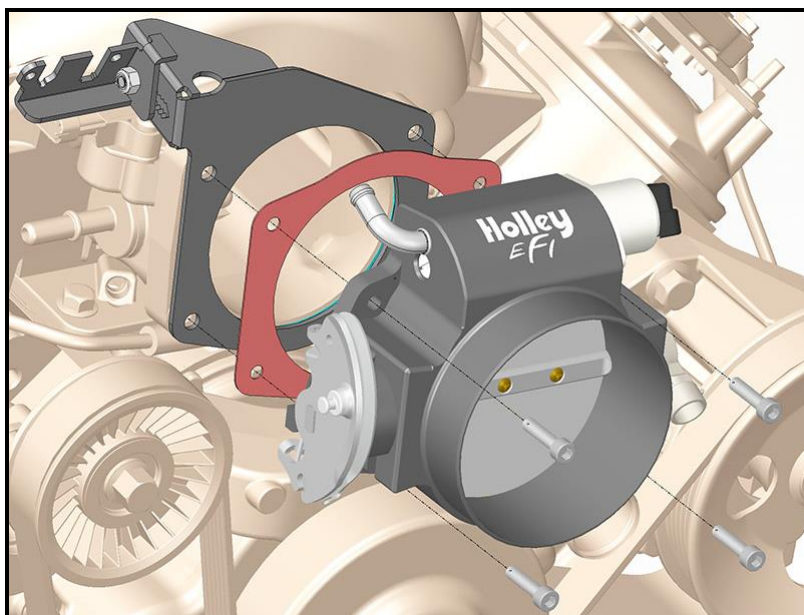

Figure 4
- Holley throttle cable bracket 20-147 or 20-148 is used (**Figure 4**).